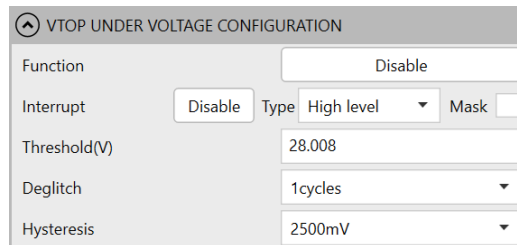

Figure 26: V_{TOP} Under-Voltage Configurations
28. Figure 26 shows how to configure the TOP pin voltage (V_{TOP}) UV parameters.